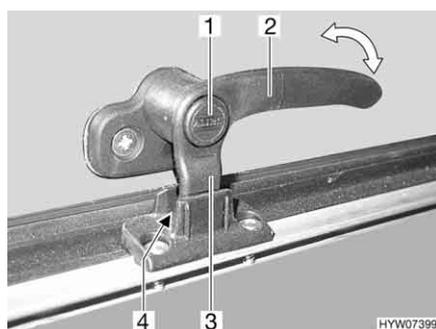
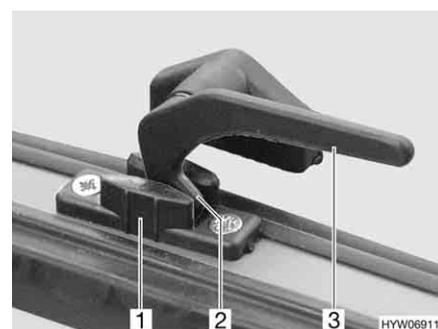

Fig. 111 Catch lever with safety knob in "continuous ventilation" position
Fig. 112 Catch lever in "continuous ventilation" position
- "Continuous ventilation" (Fig. 111 and Fig. 112)
- Press and hold the security button (Fig. 111,1), if present.
- Turn the catch lever (Fig. 111,2 or Fig. 112,3) a quarter turn towards the centre of the window.
- Return the catch lever to its initial position. Move the locking catch (Fig. 111,3 or Fig. 112,2) on the catch lever into the recess of the window catch (Fig. 111,4 or Fig. 112,1).